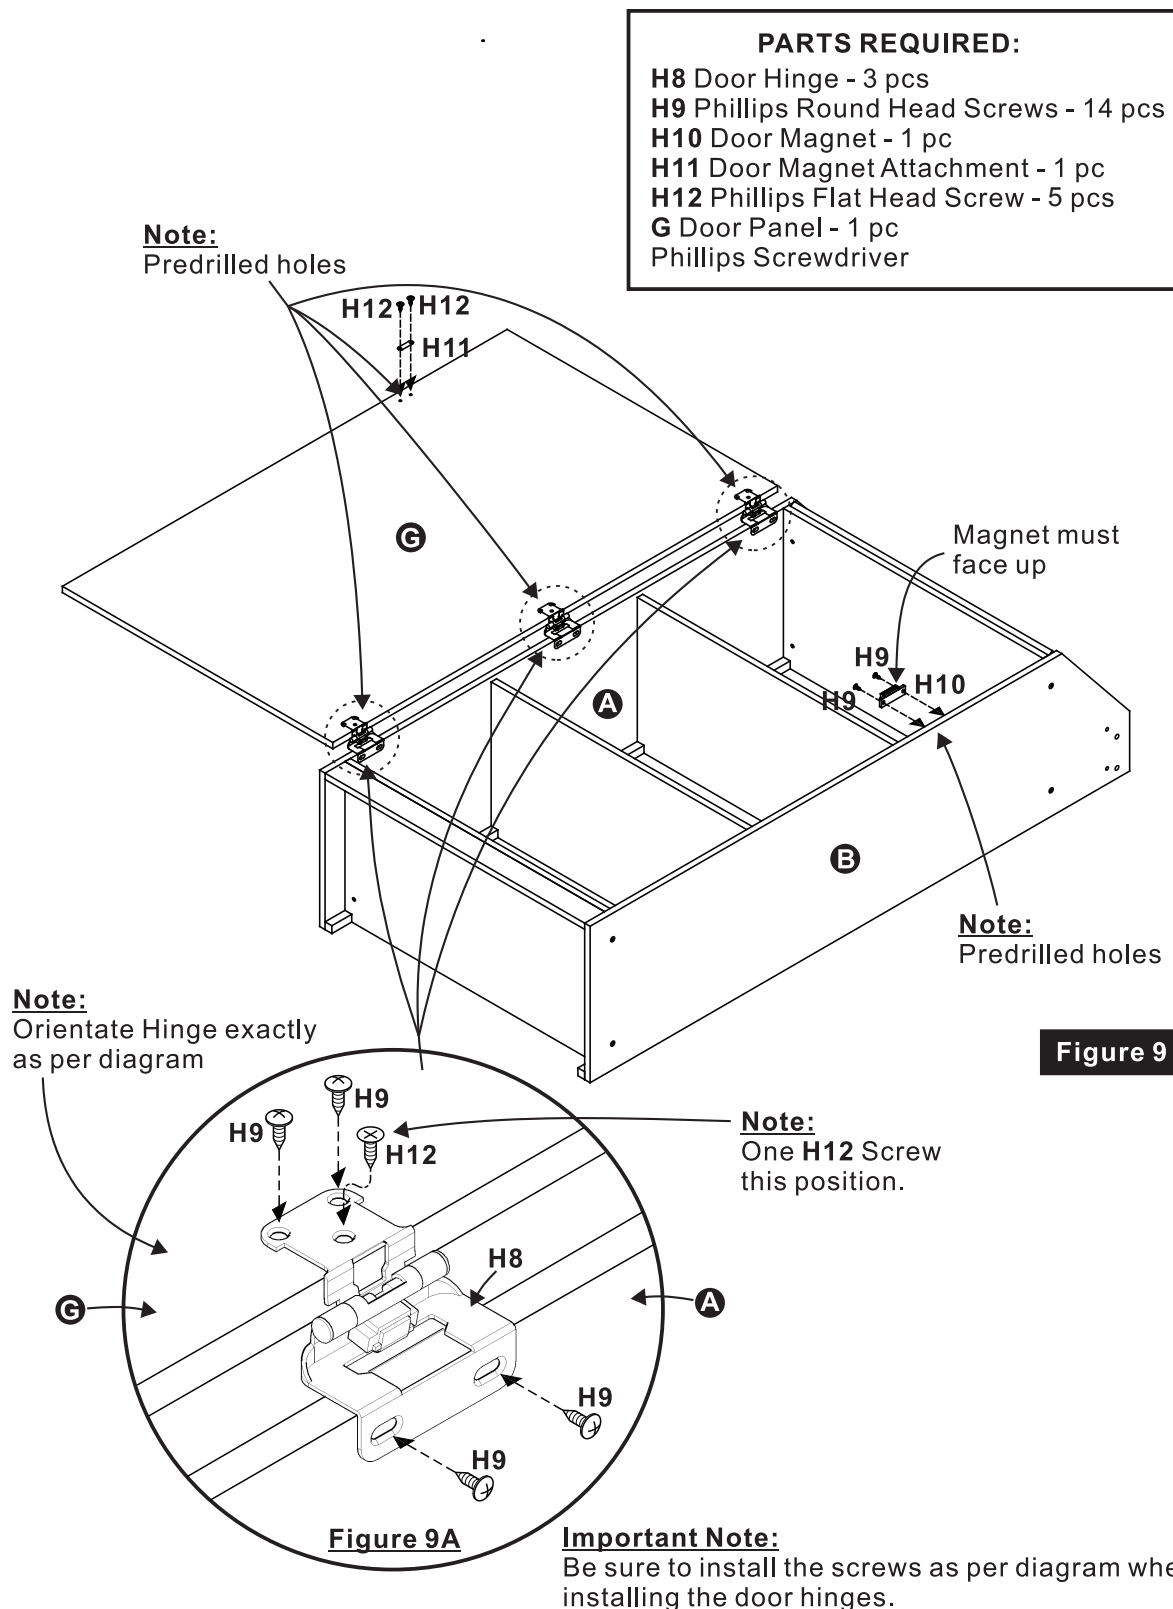

Figure 9
18. Attach Door Magnet (**H10**) to Part **B** using Phillips Round Head Screws (**H9**). See **Figure 9**.